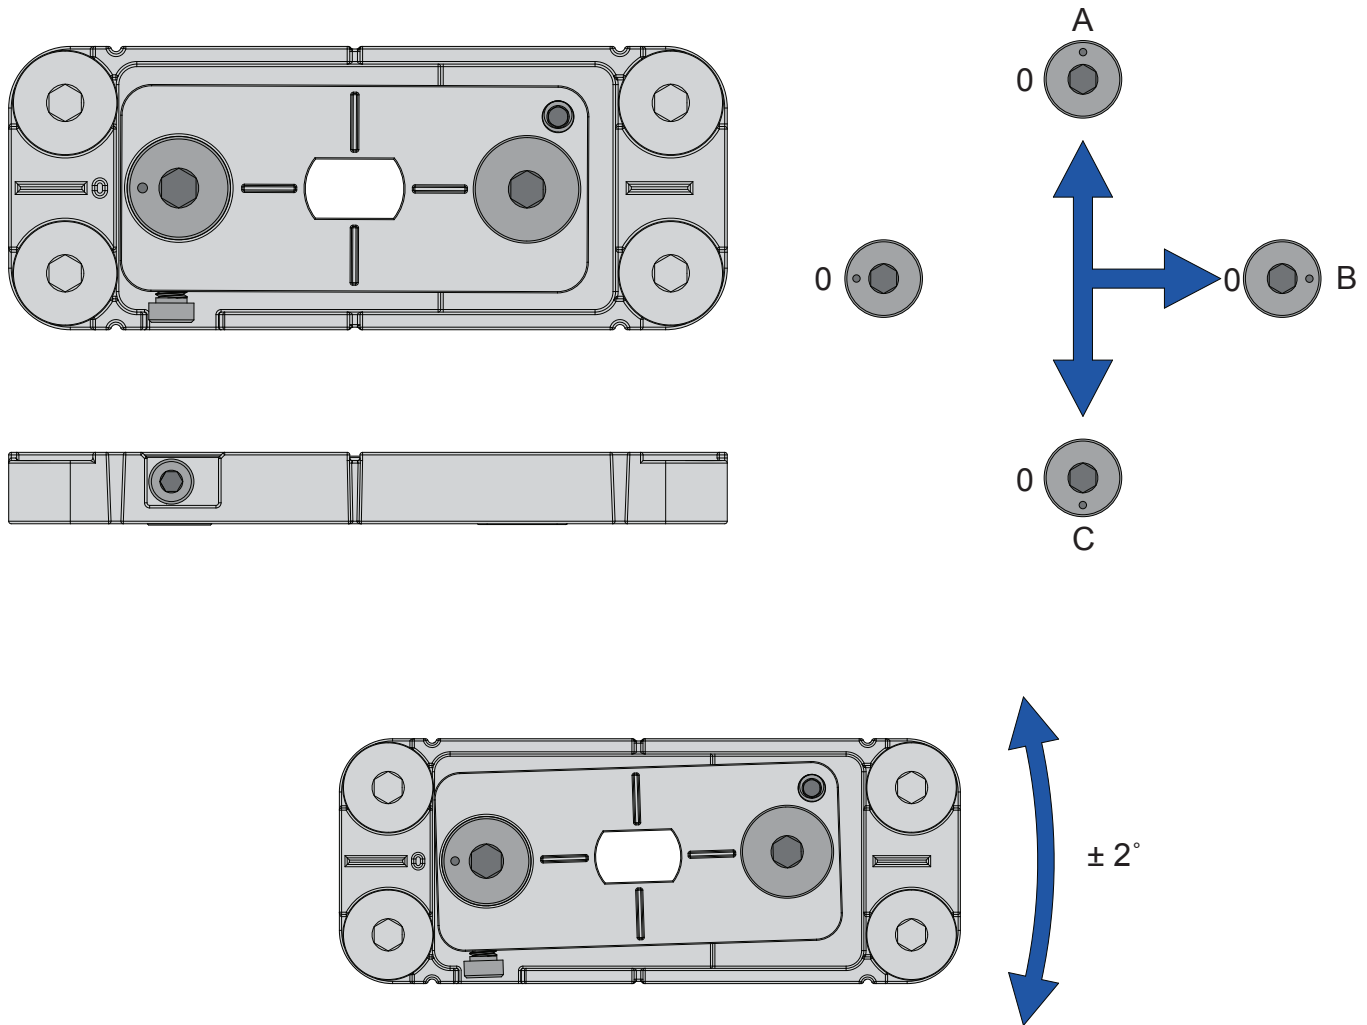

FIG. 5
3. Loosen the screws shown, adjust the hinge as needed and re-tighten the Screws. (Fig. 5)